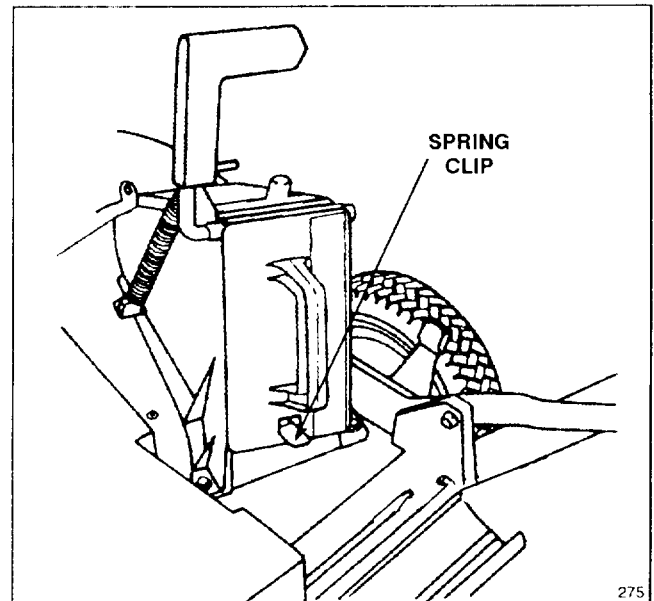

Figure 6
- Push the plug all the way in until the spring clip on the bottom of the plug clicks into place, locking the plug securely into the discharge tunnel (Fig. 6). Release discharge door handle to lock top of plug.